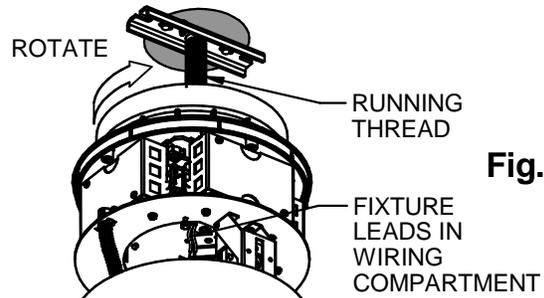
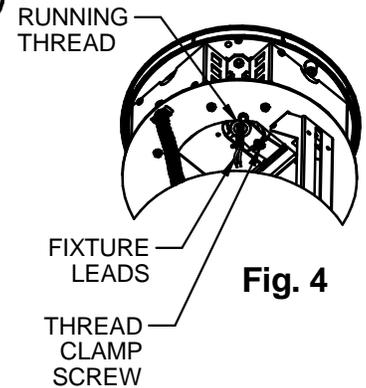

Fig. 3
Fig. 4
- Carefully flip the cylinder upright and lift the cylinder up to the mounting channel assembly. Feed the fixture leads through the threaded hole in the center of the fixture top assembly. Engage the running thread, and rotate the assembly a few times, being sure that the fixture *rotates freely and is not cross-threading* (Fig. 3). Pull the fixture leads out through the wiring compartment opening. Make sure they hang freely (don't rotate or twist), and thread the fixture onto the running thread until the canopy contacts the ceiling. Tighten the thread clamp screw to lock the fixture assembly onto the running thread. (Fig. 4)
Loosen the thread clamp screw to unlock the fixture assembly from the running threads. Ensure that the fixture is threaded onto the running thread such that the canopy is very close to the ceiling. Find the wallwash kicker and face it towards the wall by rotating the cylinder LESS THAN one full turn on the running threads. Once the wallwash kicker is on the opposite side of the fixture from the wall, tighten the thread clamp screw to lock the fixture assembly onto the running threads. **(Fig. 4)**